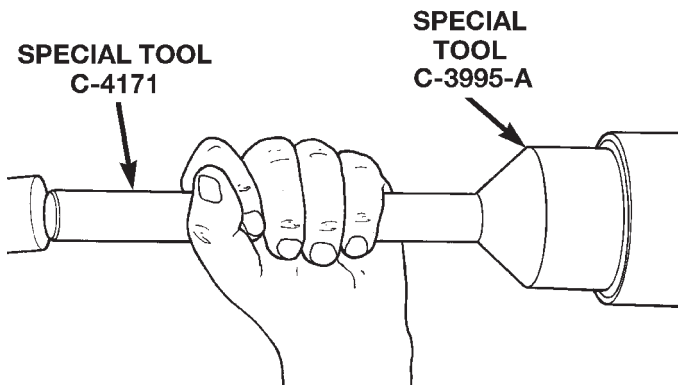

Fig. 10 Install Rear Retainer Seal
- (4) Using Installer C-3995-A, install seal in rear retainer (Fig. 10).